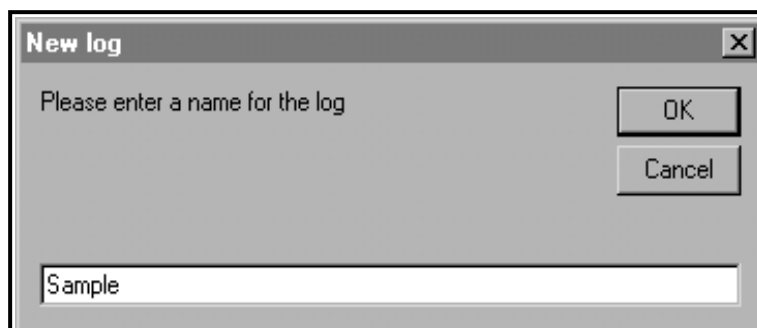

Figure 17: Log Name Dialog Box
5. Enter a log *file name* ("Sample" in this case) in the dialog box shown in *Figure 17* below. Click on the **[OK]** option button.